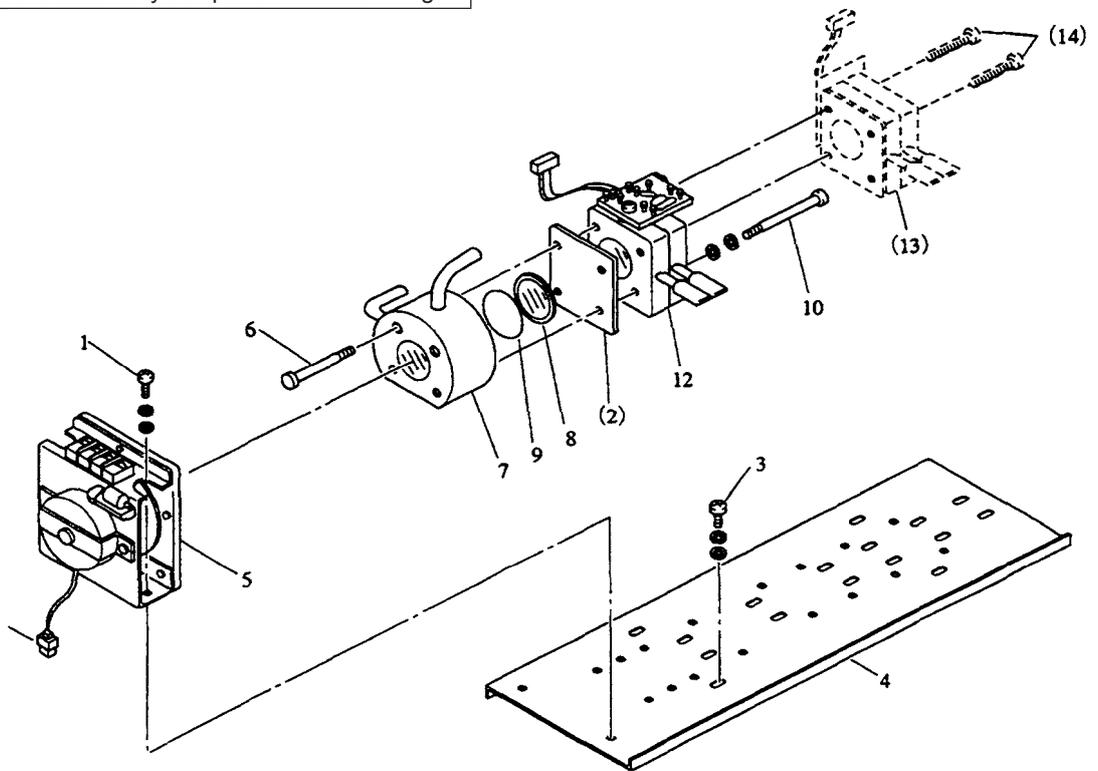

Fig. 6.2 Exploded view of measuring unit (Block cell)
(2) How to disassemble and reassemble block cell (refer to Fig.6.2 on next page)
In case of the dual components analyzer, remove connector of output cord of the secondary component detector (No.13 in Fig.6.2) from the secondary component printed circuit board, then remove the secondary component detector by loosening 2 screws (No.14 in Fig.6.2).
6) Loosen 2 screws (No.10 in Fig.6.2), with which the detector and the infrared source unit are mounted together, then remove the detector from the infrared source.
7) Remove the cell from the detector by loosening 2 fixing screws (No.6 in Fig.6.2).
A window (No.6 in Fig.6.2) on one side of block cell is not fixed but only inserted between detector and block cell, therefore hold the detector upside while disassembling not so as to drop the window down.